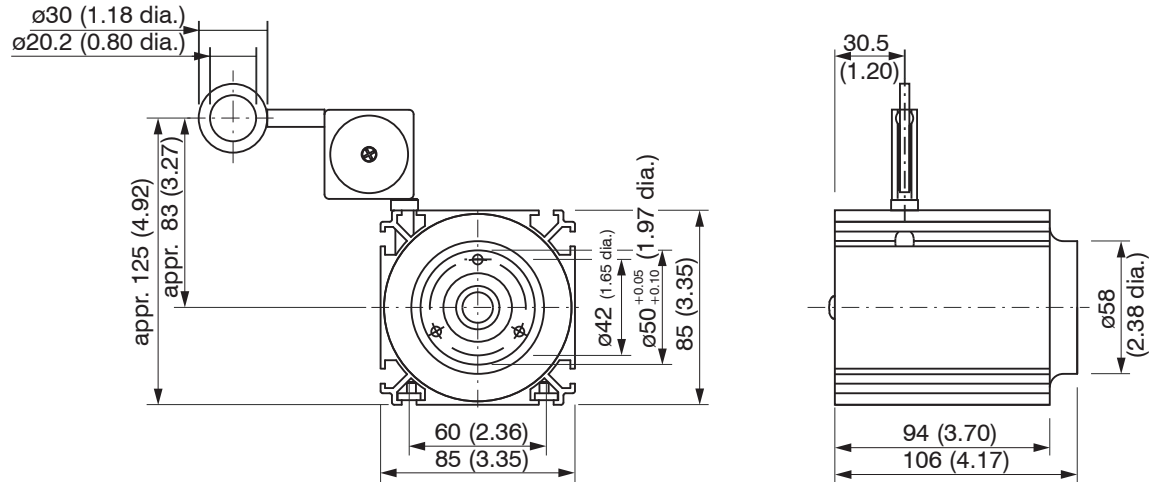

Fig. 8 WDS-TR option, wire deflection pulley directly mounted on the draw-wire sensor, dimensions in mm, not to scale
- WDS-TR option Deflection pulley, directly mounted on the draw-wire sensor, see Fig. 8